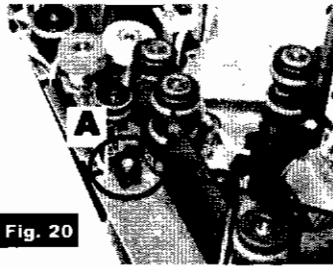
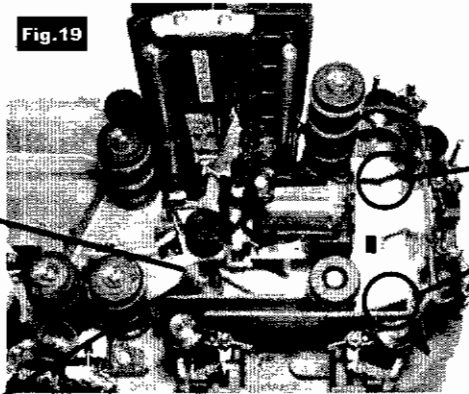
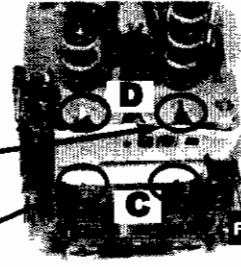

Fig. 20
Fig. 19
Fig. 22
6. To reinstall the U-track, insert the two teeth "C" in the rail "D". See Fig. 22.
Align the U-track. See Fig.19. Push back the U-track, as shown in Fig.22, until the lever "E", see Fig.19, locks the unit in place. Make sure that the pin "B", as shown in Fig.23, is inserted in the receptacle "A", see Fig.20.